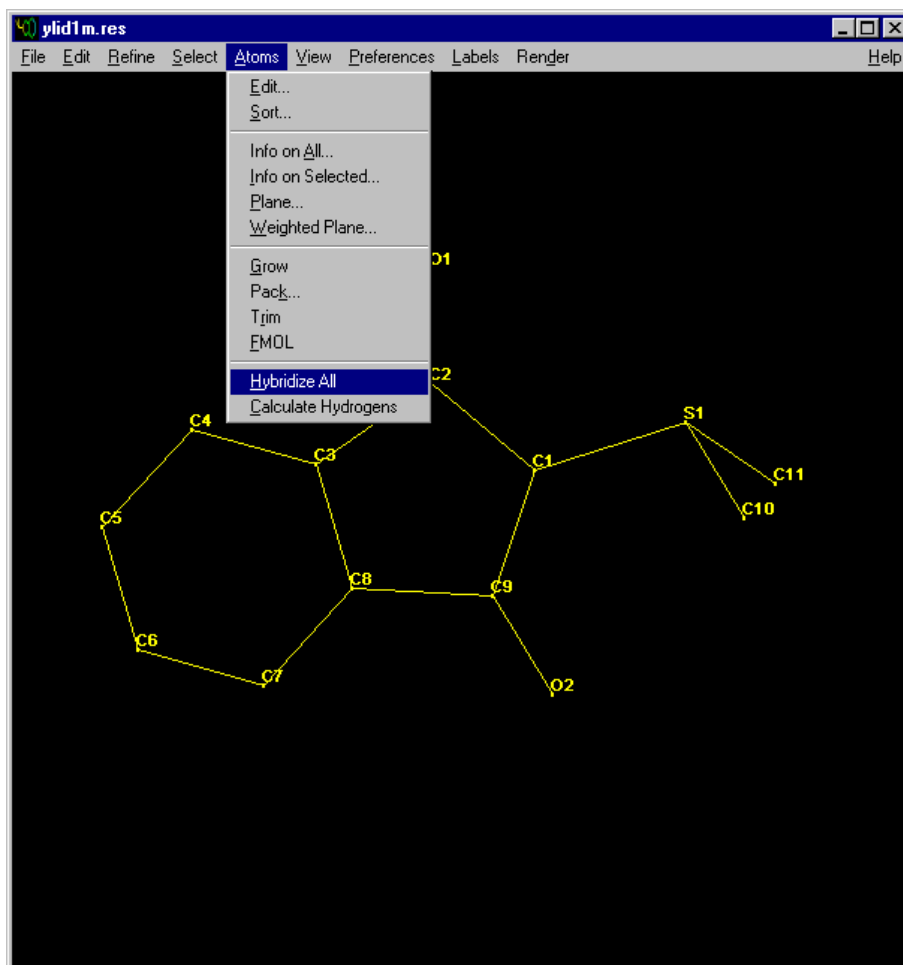

Figure 6-32. Hybridize all
38. Kill the Q-peaks as before. Then click Atoms > Hybridize All (Figure 6-32). The atoms will appear in different colors.